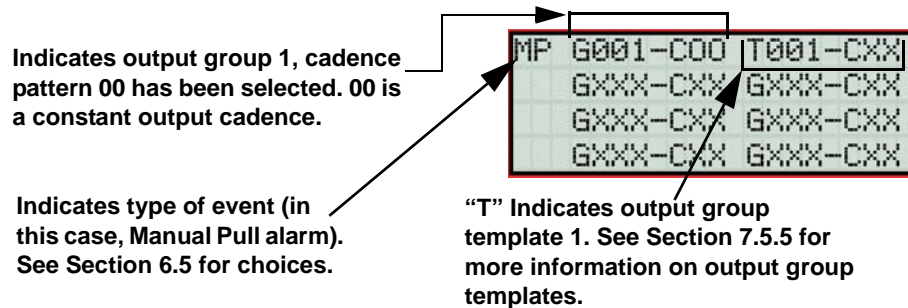

Figure 7-3 Selecting Output Groups/templates and Cadence Patterns for a Zone Event
Note: Abbreviations in the parentheses are the characters that are displayed in programming (see Figure 7-3).
6. From the next screen, a list of 8 event types will display. Select the event type you want to program. A screen similar to the one shown in Figure 7-3 will display.
8. Select options for each event that could occur in this zone. Figure 7-3 is a complete example of how you might map a zone.